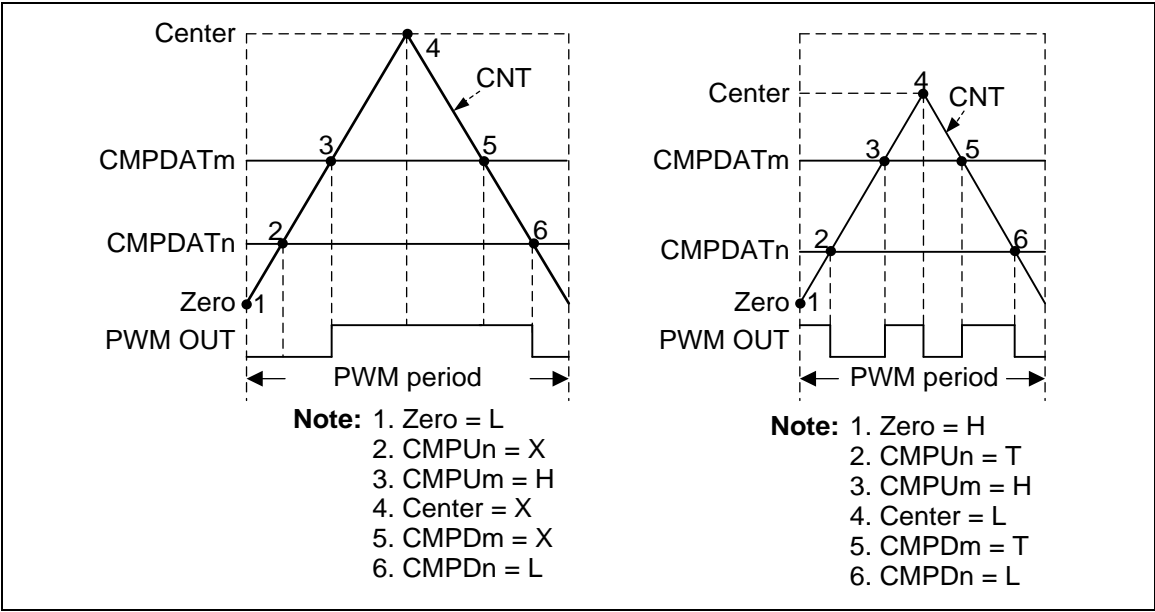

Figure 6.9-17 PWM Pulse Generation
Each event point can decide PWM waveform to do nothing (X), set Low (L), set High (H) or toggle (T) by setting the PWM_WGCTL0 and PWM_WGCTL1 registers. Using these points can easily generate asymmetric PWM pulse or variant waveform as shown in Figure 6.9-17. In the figure, PWM is in complementary mode, there are two comparators n and m to generate PWM pulse. n denotes even channel number 0, 2, or 4, and m denotes odd channel number 1, 3, or 5. n channel and m channel are complementary paired. Complementary mode uses two channels (CH0 and CH1, CH2 and CH3, or CH4 and CH5) as a pair of PWM outputs to generate complement paired waveforms. CMPU denotes CNT is equal to CMPDAT when counting up. CMPD denotes CNT is equal to CMPDAT when counting down.